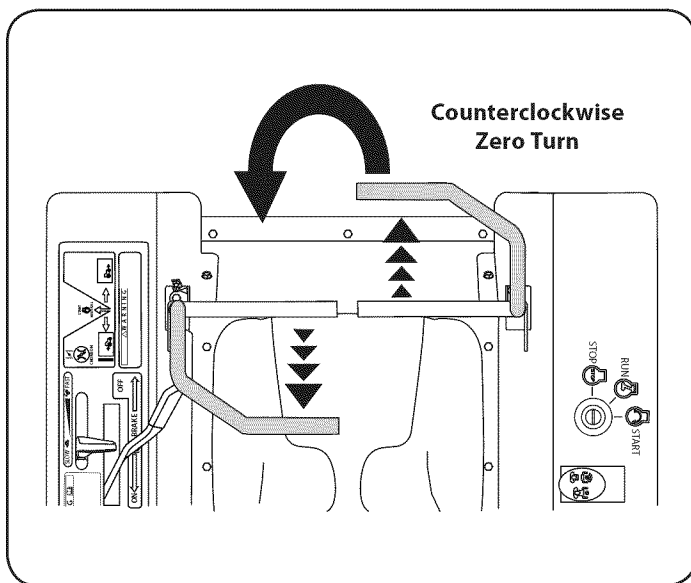

Figure 22
3. To turn counterclockwise, move the right control lever forward while simultaneously moving the left control lever rearward. See Figure 22.